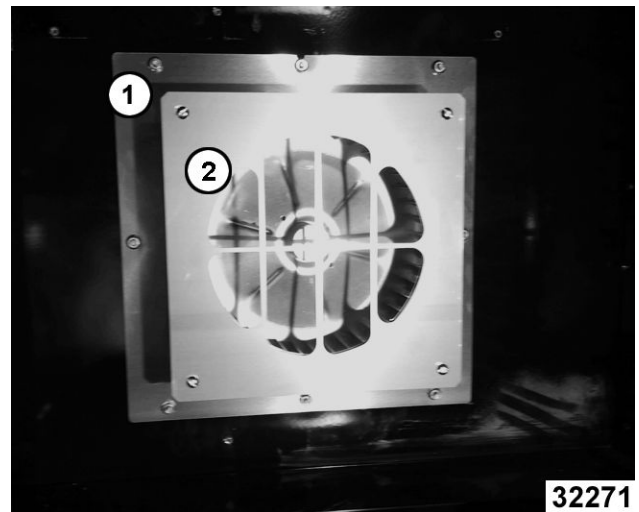

Fig. 31
7. Remove blower baffle screws (2, Fig. 31) if applicable.
8. Remove motor mounting plate nuts (1, Fig. 31).